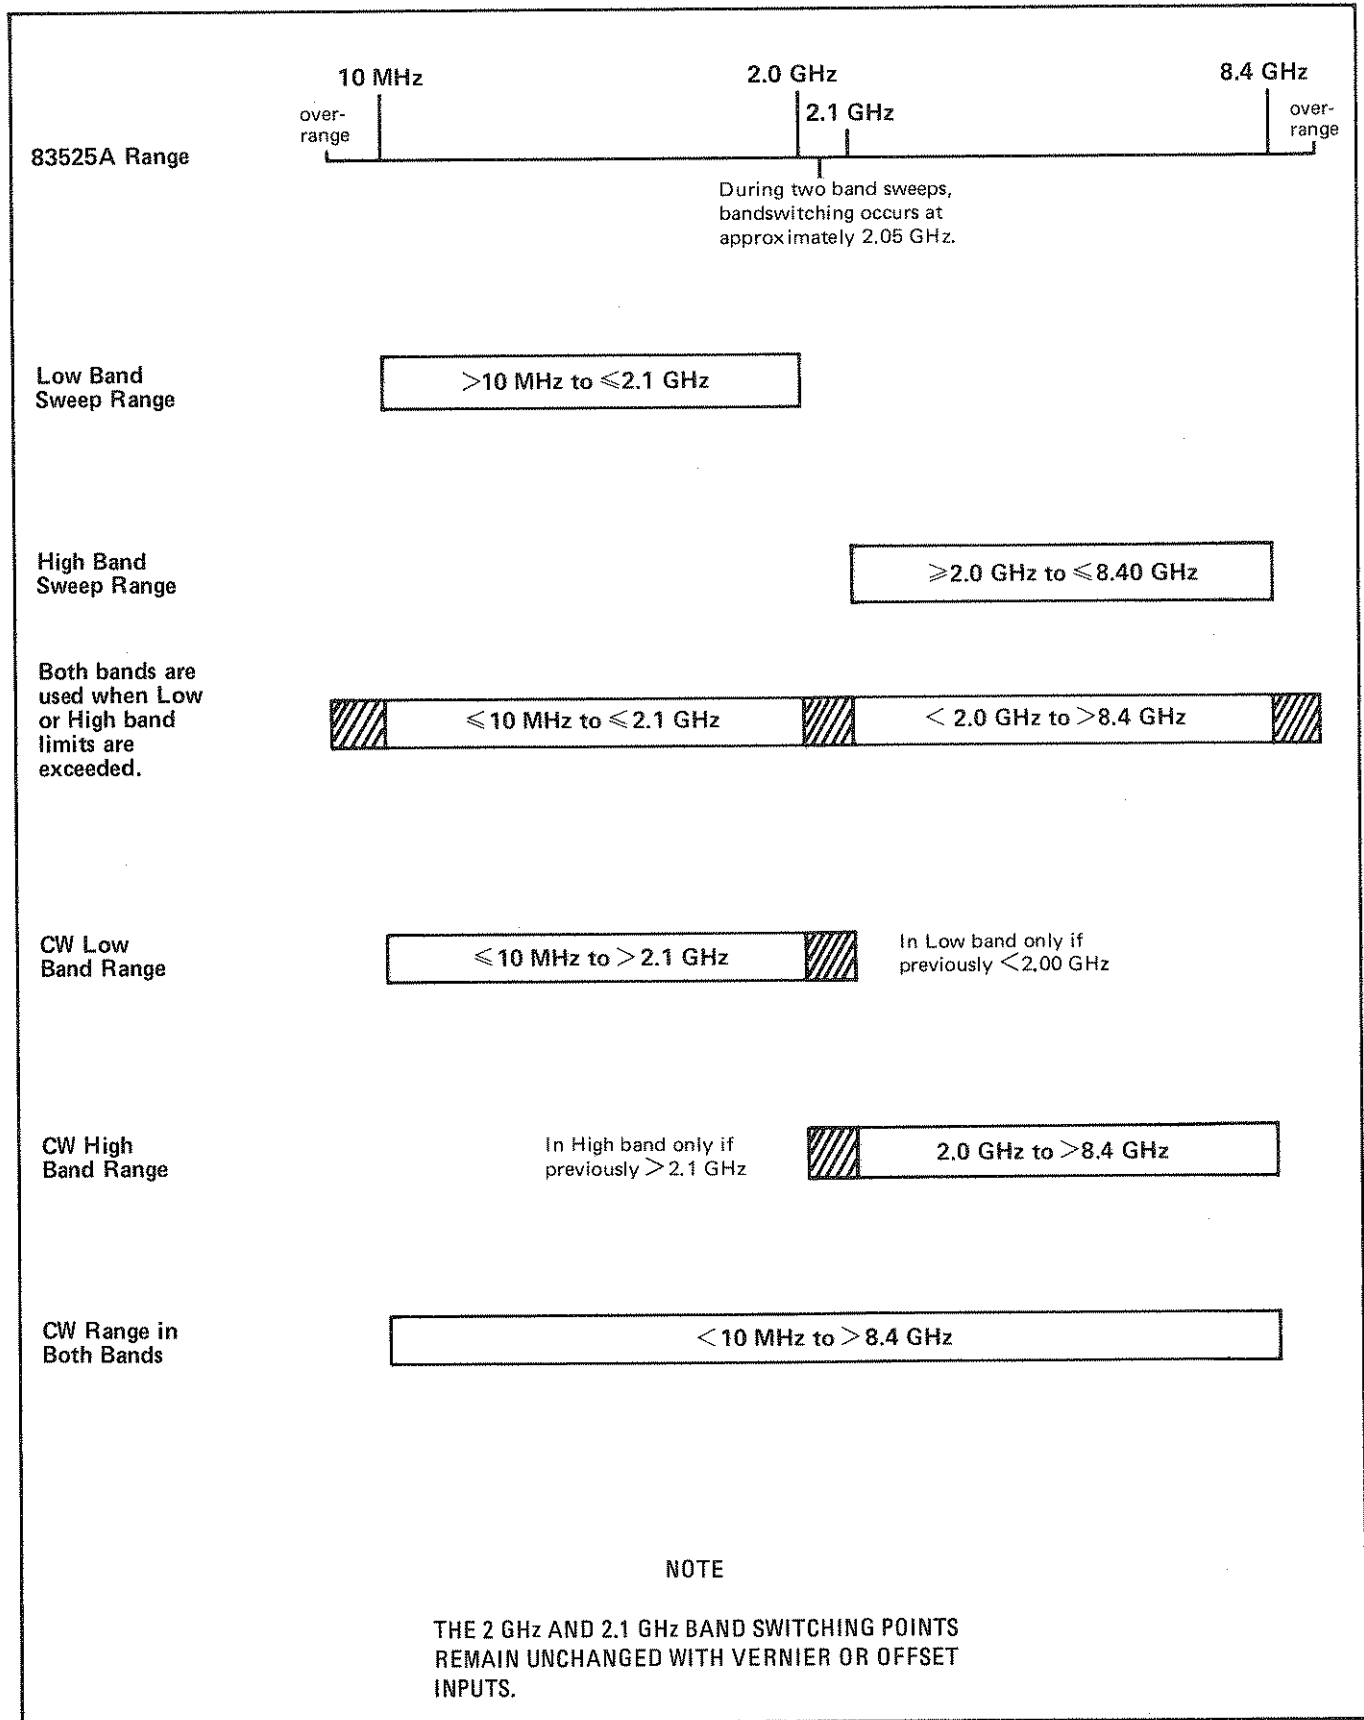

Figure 3-1. Band Switching in CW and Swept Frequency Modes
3-6. The 83525A 10 MHz to 8.4 GHz RF output is provided in two bands: 10 MHz to 2.1 GHz and 2 GHz to 8.4 GHz. When sweeping a range of frequencies larger than a single band, the switching between these bands is done automatically. Careful selection of sweep frequencies may avoid problems associated with band switching such as harmonics, sweep time, stability, or switching discontinuities. Figure 3-1 illustrates the band switching points in the swept and CW modes.
* For Band 0 sweeps only, with $\Delta F \leq 50$ MHz, display resolution increases to 10 kHz. See Figure 3-1 for bandswitch points.